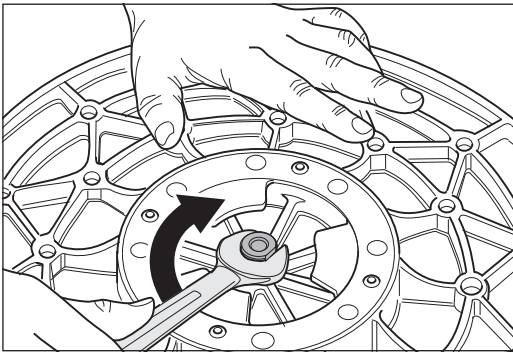

Fig. 36 To remove the centering dome, turn it **in a clockwise** direction (LEFT-HANDED THREAD)!
- 2 Turn the centering dome **clockwise** out of the sanding plate with an open-ended or ring spanner (LEFT-HANDED THREAD, Fig. 36)!